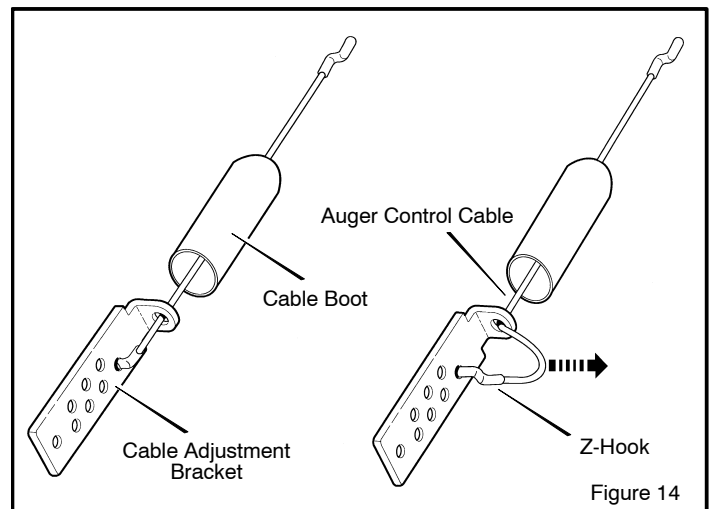

Figure 14
2. Slide the **cable boot** off the **cable adjustment bracket** (Figure 14).